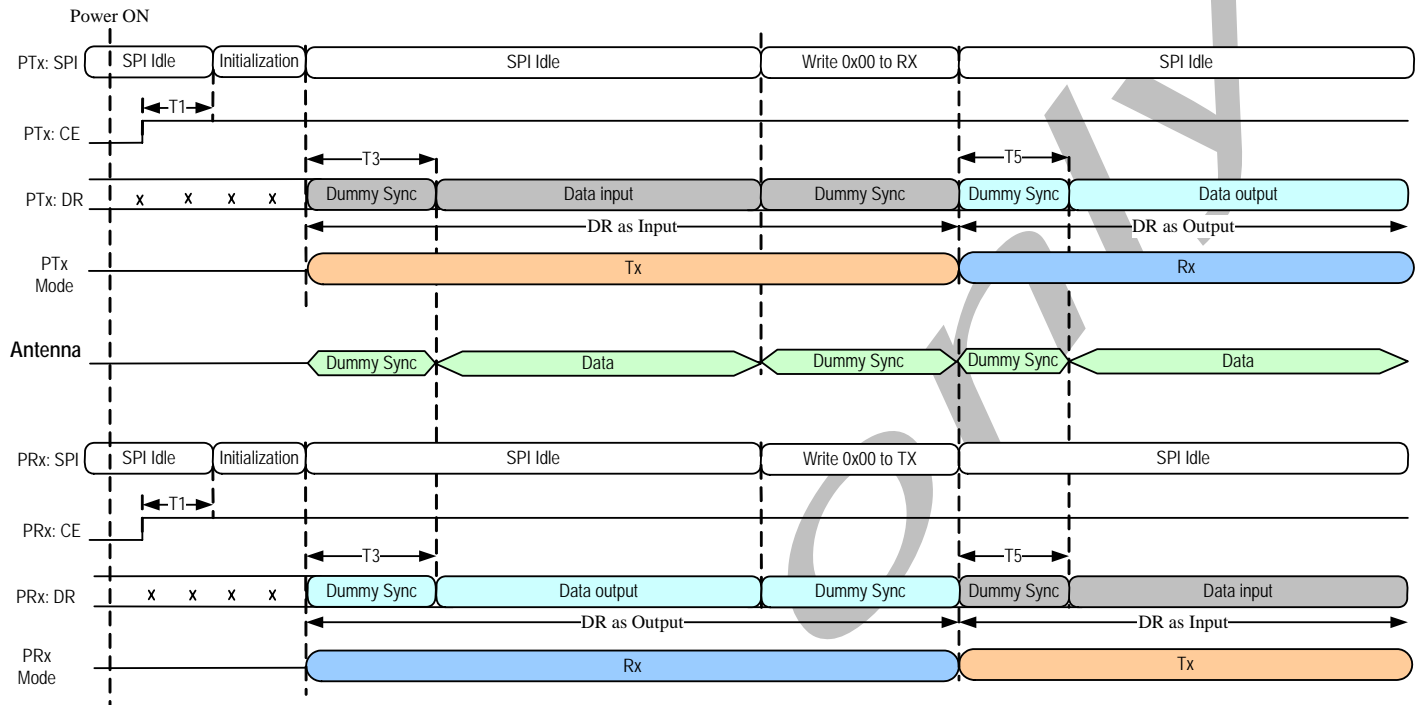

Figure 15: TX/RX Switching Operation Timing Diagram in Direct Mode
When RF blocks are active in TX device, you must be to write dummy sync from pin of DR. It can reduce the RX receiving settling time. Figure 15 shows the timing diagram for RX/TX switching operation. When the devices change from TX(RX) into RX(TX) directly, the devices don't go into standby mode. Besides, the PLL block only takes the time T5 not T3 for PLL settling time.